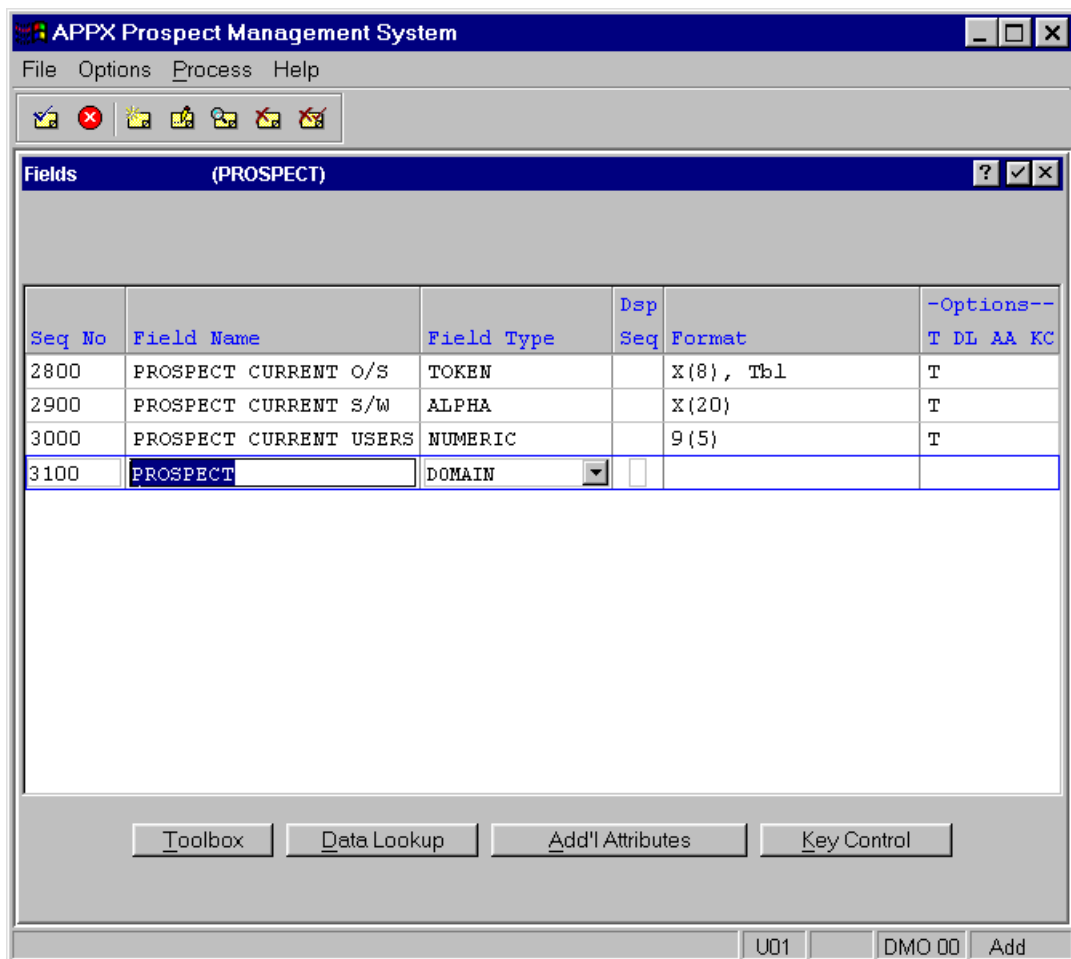

Figure E2.9 – The Fields Screen After Adding Three New Fields
- *Figure E2.9* shows how the APPX screen should look once you have completed the entry of the last of the three new fields.